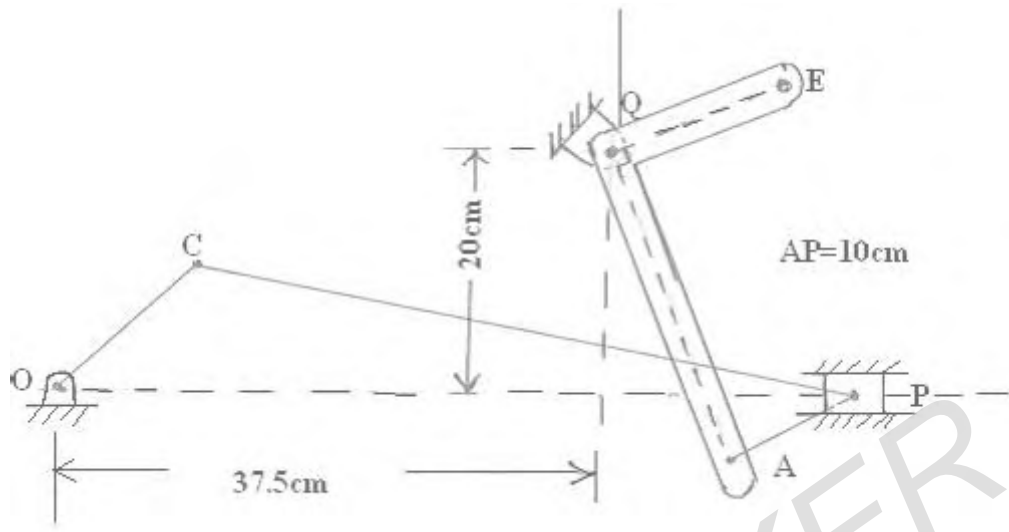

Figure 8
8. The figure 8 shows the configuration OCPAQE of a mechanism, Find :